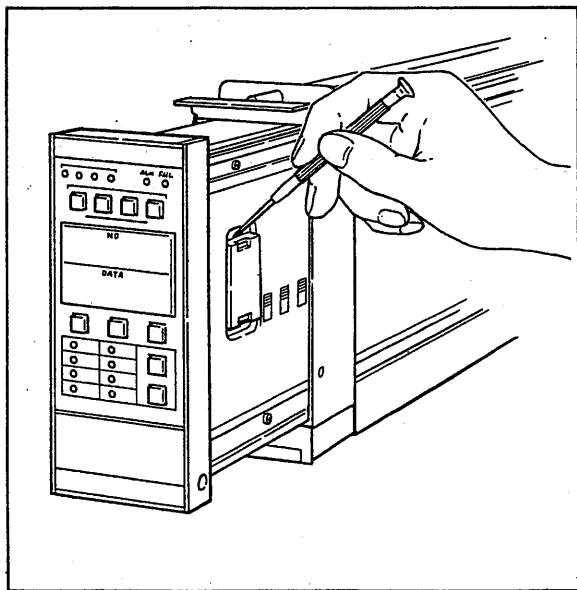

Figure 6-3-1. Protection Cover Removal.
- (1) Pull out the internal assembly from the housing, and then remove the battery cover and the battery. (See Figs. 6-3-1 and 6-3-2.)
- (2) Load a new battery and then tightly close the cover.
- (3) Check that the ALM lamp at the instrument front stops flashing.